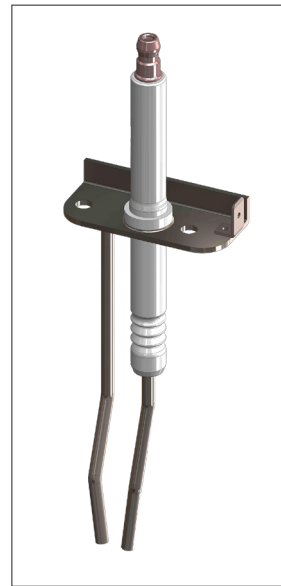

Fig. 7 - Prestige Trimax - New Igniter
2. Install the new igniter (See Fig. 7), with its new gasket, on the burner mounting plate support, paying attention not to damage the new insulation.